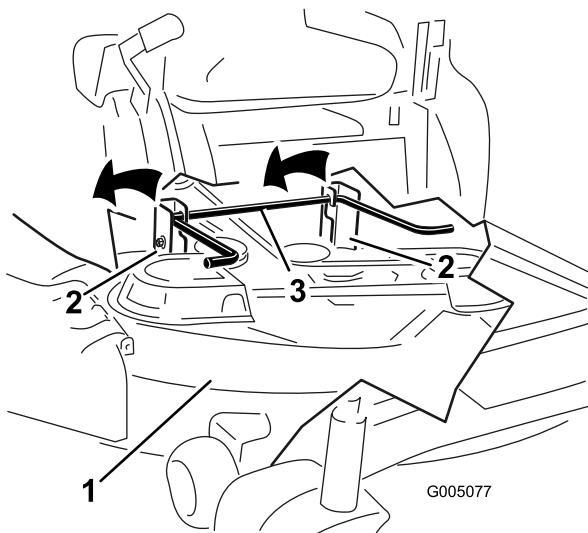

Figure 48
5. Lift the mower deck and hanger brackets clear of the rear lift rod and lower the mower carefully to the ground (Figure 48).
5. Lift the rear of the mower deck and guide the hanger brackets over the rear lift rod (Figure 48).